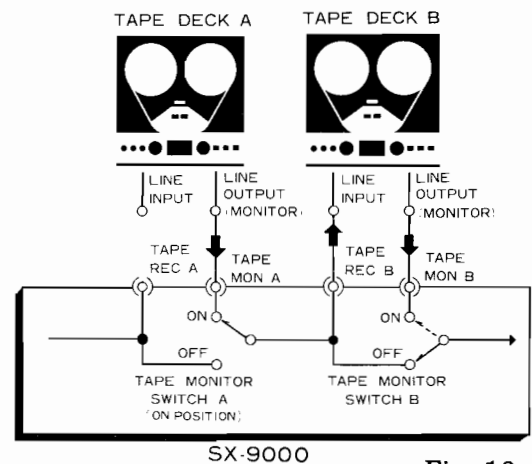

Fig. 10
1. As shown in Fig. 10, place the old tape or mother tape on TAPE DECK A and turn TAPE MONITOR SWITCH A ON.